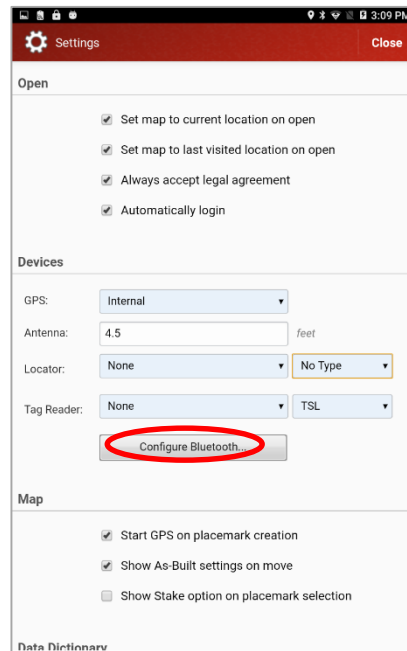

Figure 2
2. Under Devices, tap the **Configure Bluetooth** button (Figure 2)